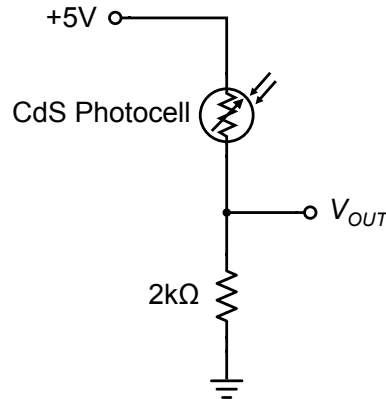

Figure 3 – A CdS photocell is wired up in a voltage divider circuit. The output voltage V_{OUT} depends on the light intensity incident on the photocell.
1. Sketch the circuit diagram shown in Figure 3 in your lab notebook.
6. Use the breadboard to create the photocell voltage divider circuit shown in Figure 3. Make sure you use the fixed 5V DC power supply on the breadboard.